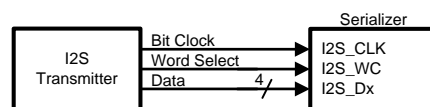
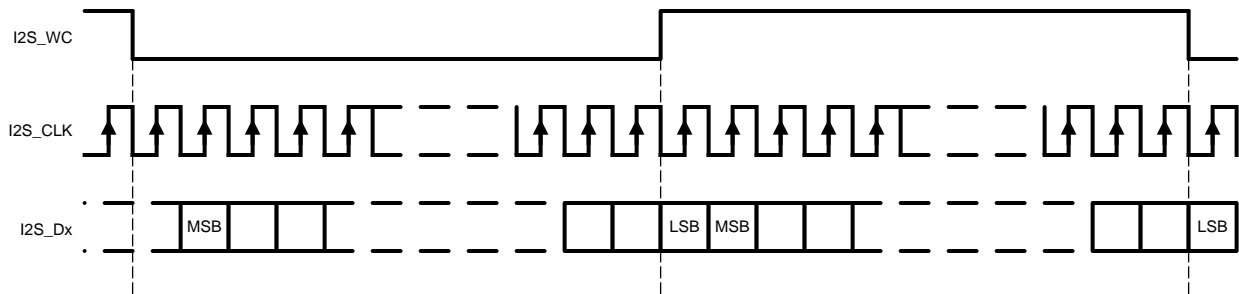

Figure 13. I²S Connection Diagram
Figure 14. I2S Frame Timing Diagram
The DS90UB941AS-Q1 serializer features six I²S input pins that, when paired with a compatible deserializer, supports 7.1 High-Definition (HD) Surround Sound audio applications. The bit clock (I2S_CLK) supports frequencies between 1 MHz and the lesser of CLK/2 or 13 MHz. Four I²S data inputs transport two channels of I²S-formatted digital audio each, with each channel delineated by the word select (I2S_WC) input. Refer to Figure 13 and Figure 14 for I2S connection diagram and timing information.